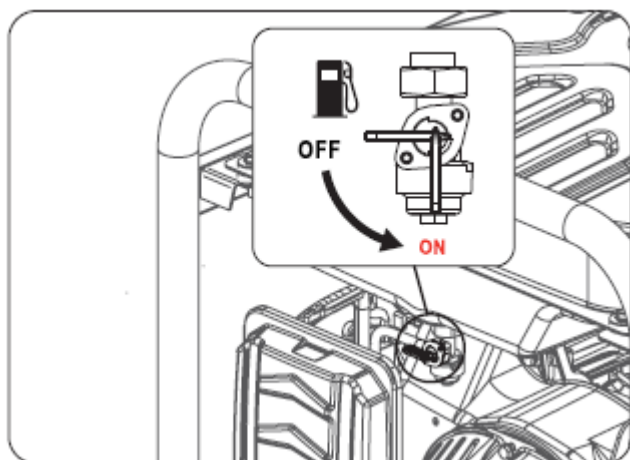

Fig. 6
- Turn fuel valve to the "ON" position.) (See Fig. 6).